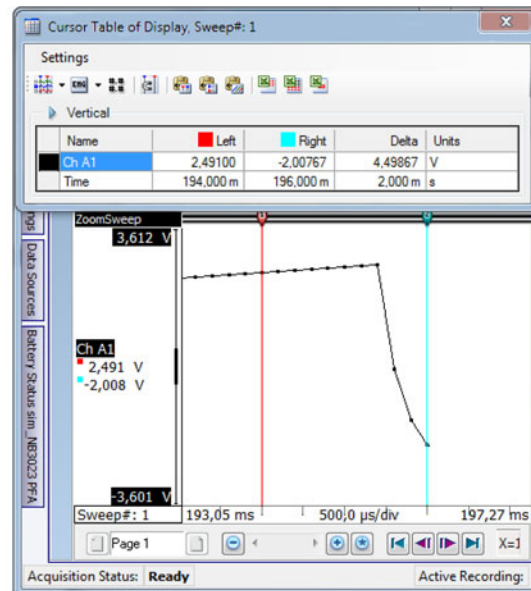

Figure G.11: Sample recording 3
- Next sample recorded (sample of blue cursors, see Figure G.11)